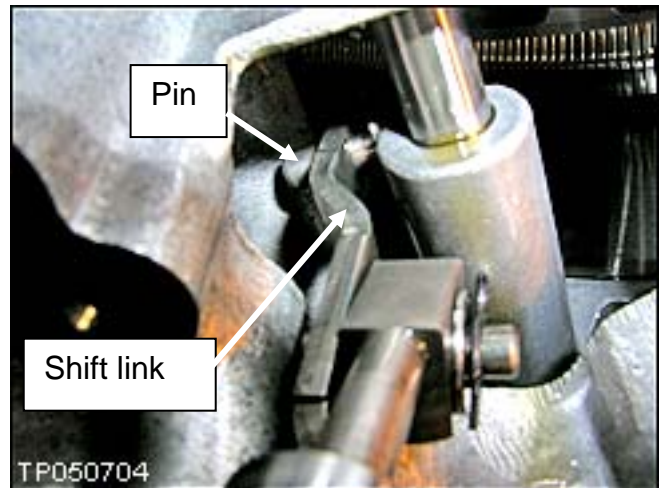

Figure 15
12. Install the valve body and shift link with the fork end of the shift link around the pin as shown in Figure 15.